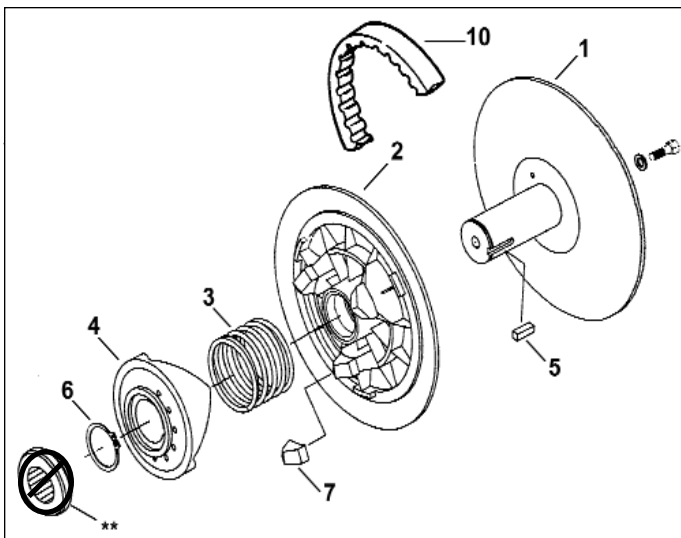

Figure 4 - Secondary Driven Clutch
2. Place an appropriate size hex socket onto the center shaft. Using a mechanics three jaw puller, (jaws turned inward) grasp the cam (Figure 4, #4) and press against the hex socket, to remove secondary driven clutch cam.
1. Using a large diameter socket, press gently on the cam to allow retaining ring removal. Using external snap ring pliers, remove the retaining ring (Figure 4, #6).
5. Inspect bearing in sliding half pulley (Figure 4, item 2). With your hand, grab sliding half pulley flange and check for side movement. If sheave moves greater than 3/32 inches, replace sliding half pulley.